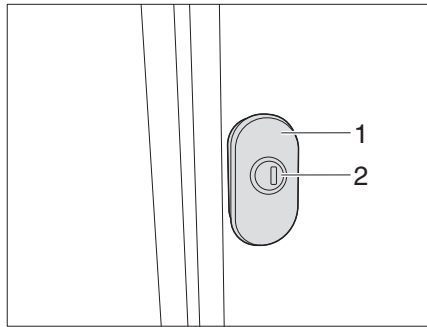

Fig. 56 Turnbuckle lock (variant 1)
- Insert the key into the locking cylinder (Fig. 56/57,1) and turn a quarter turn. The flap lock is unlatched.
- Pull on the turnbuckle lock (Fig. 56/57,2) and rotate anticlockwise through 180°. The external flap is open.